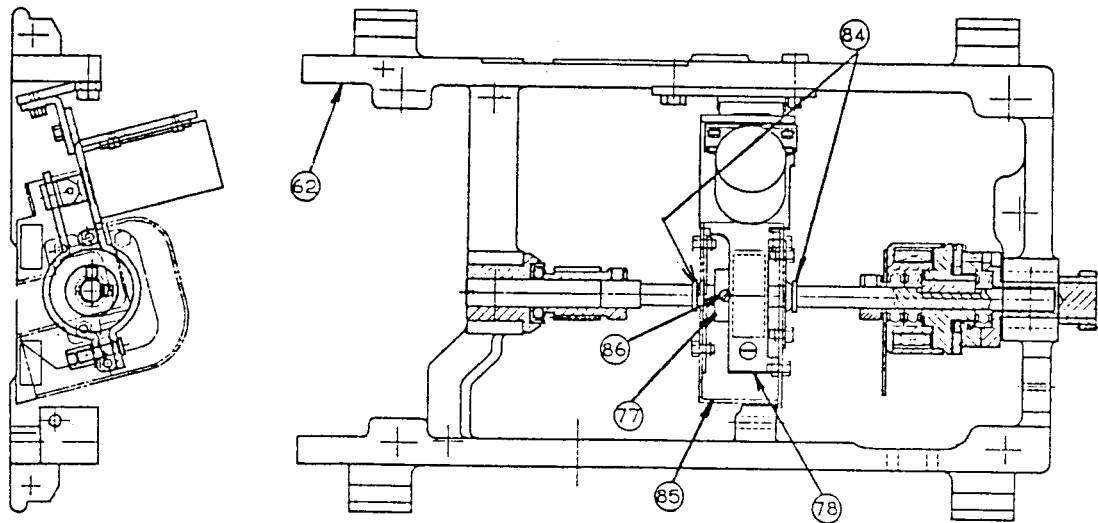

Fig.17
3. To adjust the rapid feed brake shaft oil seal.(Fig.17)